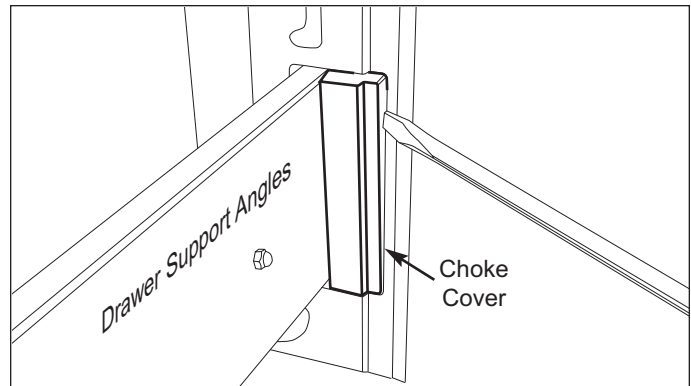

Figure 4-10. Choke Cover Removal
5. Remove the two drawer support covers from the choke cover as shown in Figure 4-10.
6. Insert a putty knife or flat thin blade screwdriver (thickness of about 0.5mm) into the gap between the choke cover and the door frame (See Figure 4-10).